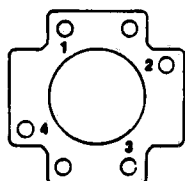

Figure 7-9. VALVE ACTUATOR NAMEPLATE.
4. Remove the four socket head capscrews numbered in Figure 7-9 and disconnect spring module from actuator body.